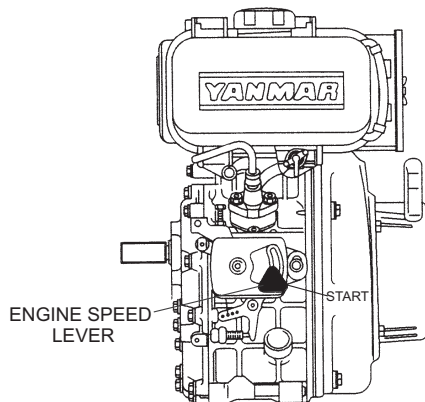

Figure 8. Engine Speed Lever (START position)
3. Move the engine speed lever to the **START** position (Figure 8).